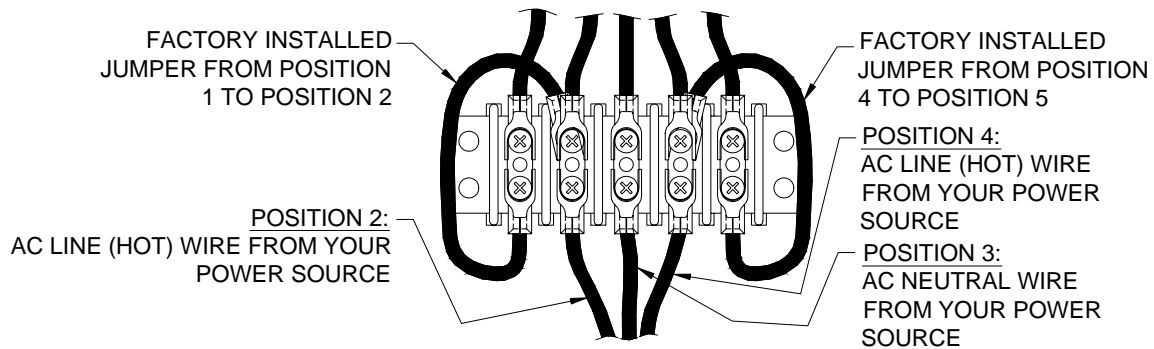

Figure 8 240 VAC Connections
- If you are going to connect the scoreboard to a 240 VAC supply, connect one AC line wire to position 2, AC neutral wire to position 3, and the other AC line wire to position 4 of terminal strip T4 on the junction chassis according to figure 8.